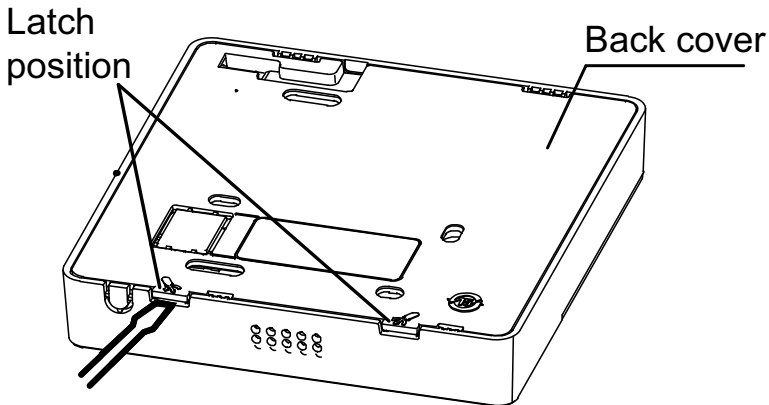

Fig. 3 – Slot Locations on Wired Controller
- For exposed mounting, fasten the back plate on the wall with the 3 screws (ST3.9*25) and plugs (see Fig. 3).